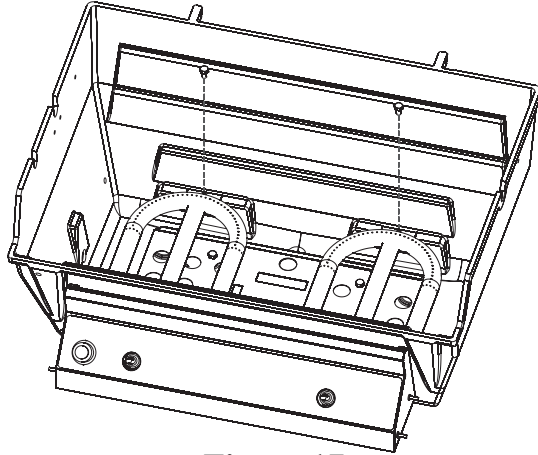

Figure 17
2. Remove burners from grill (one (1) 1/4-20 x 3/4 phillips screw for each burner). See Figure 17.